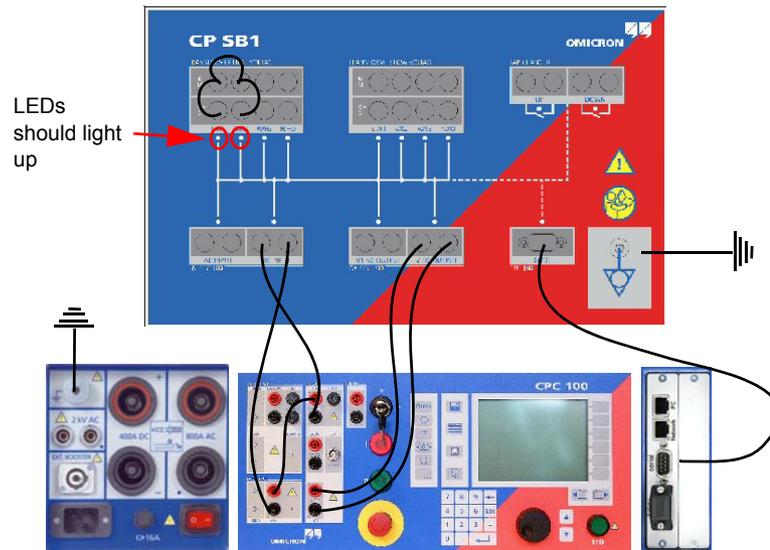

Figure 3-14 Measurement setup for the trouble-shooting test
- Connect the *CP SB1* with the *CPC 100* as shown in Figure 3-14: